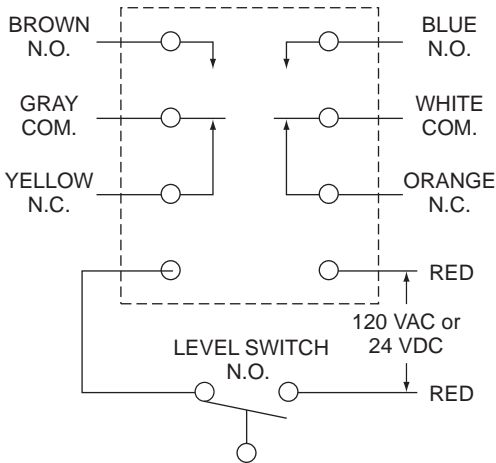

Figure 3
3. DPDT relay: Connect wiring to proper terminals by color and run power supply according to the wiring diagram. See figure 3. This relay must be powered to function. 5A @ 24 VDC relay requires 24 VDC power supply while the 5A @ 120 VAC relay requires 120 VAC power supply.